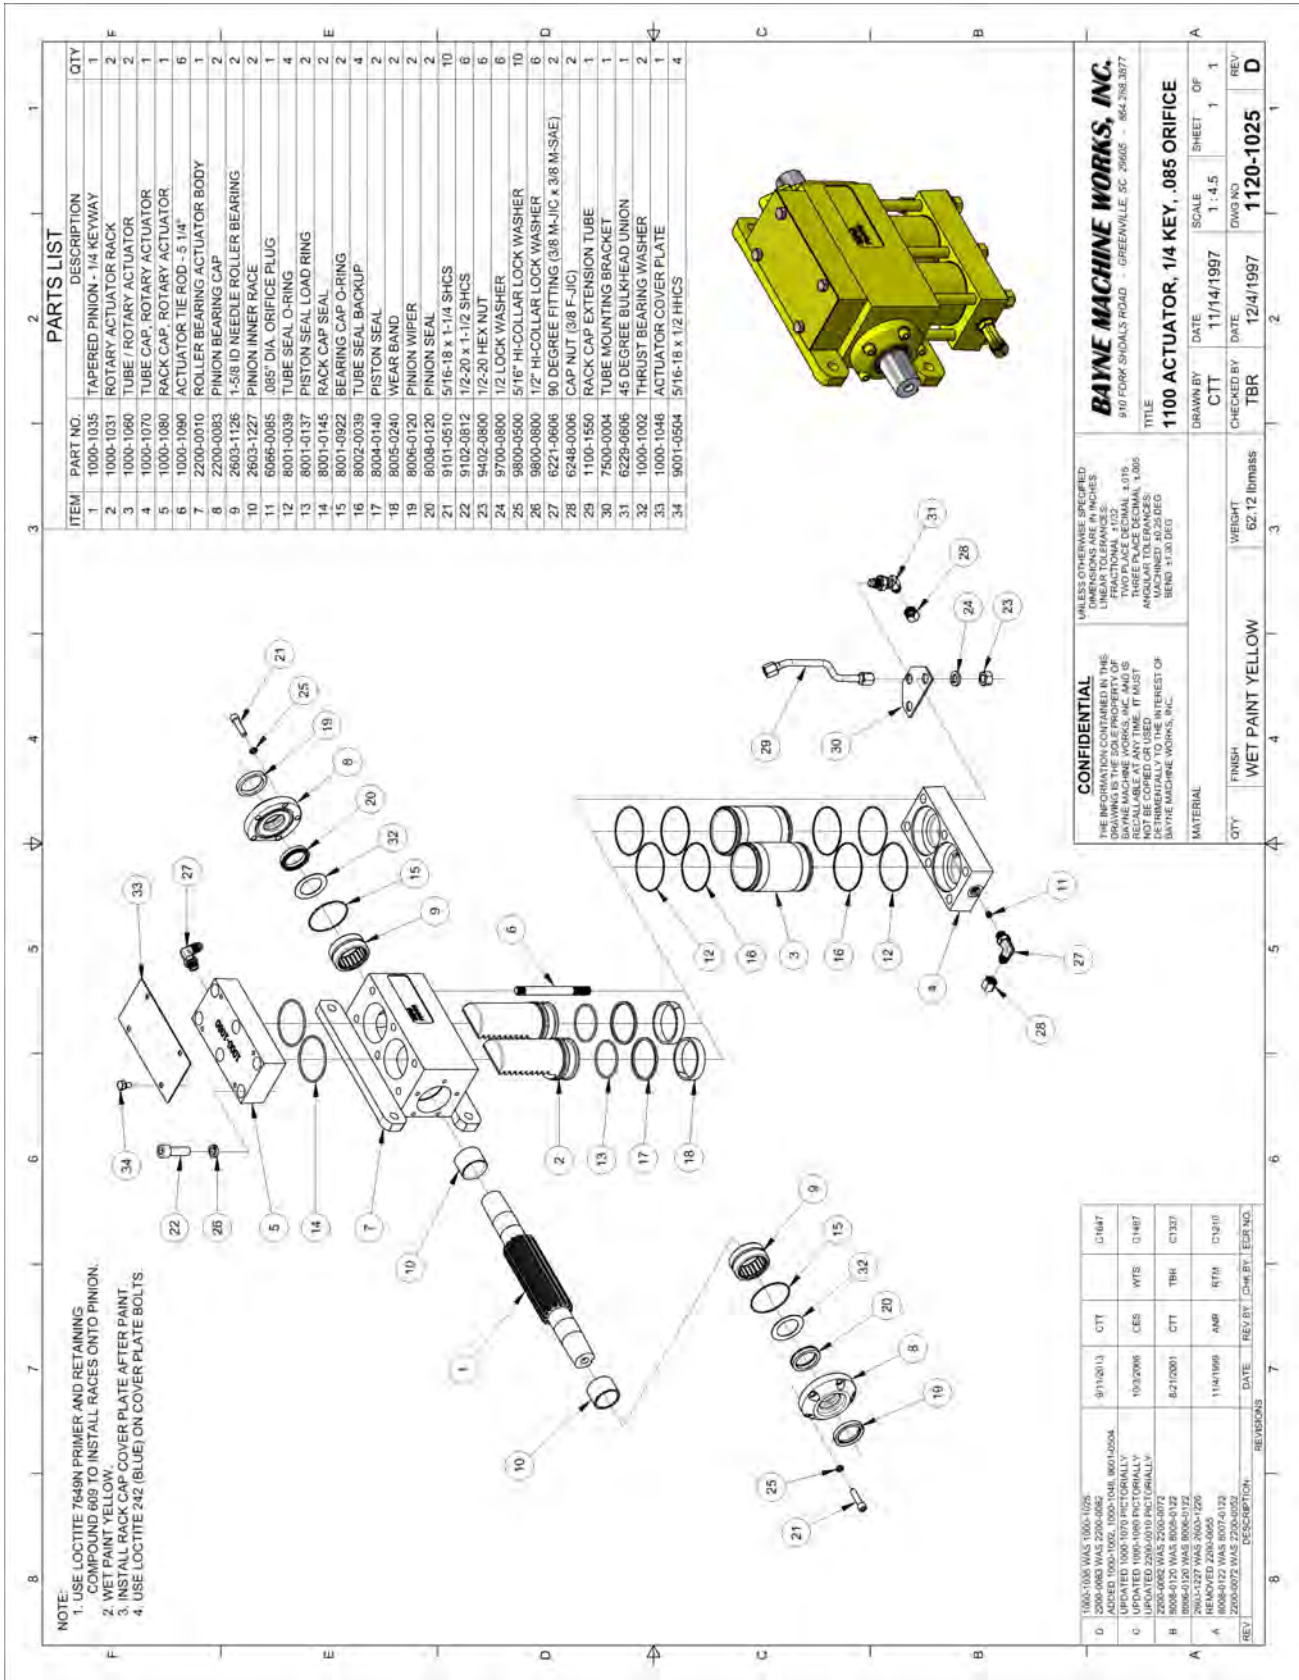

Figure C-13
Before starting the assembly of the Rotary Actuator, refer to the exploded parts drawing and parts list (Figure C-13 found at the end of these instructions) to familiarize yourself with the individual components. Prepare a clean surface, in an area free of blowing dust and contaminants in which to assemble the Rotary Actuator. Be sure that all parts are thoroughly clean and dry before starting assembly.
2. Install the tube seal (12) ( Figure C-2 ) and "square" tube seal backup (16) on each end of the actuator tubes (3) ( Figure C-13 ). Be sure that the "square" tube seal backup ring is toward the inside of the tubes at both ends as shown. Press all rings firmly into the grooves. Repeat this procedure for the other tube.
5. Coat the head portion of the racks (2) ( Figure C-13 ) with STP Oil Treatment. Install the racks, head portion up with the teeth facing the flanges of the actuator body, into the dual set of bores in the body. Simultaneously slide the racks into the bores so that the racks mesh with the pinion in the same position. Rotate the pinion shaft to engage the racks into the pinion.
7. Coat one end of the actuator tubes (3) ( Figure C-13 ) around the seal area with STP Oil Treatment as shown in Figure C-7. Using a rubber mallet, drive the coated end of the tube onto the exposed rack until the tube end seats in the actuator body, making sure that the seals remain in place as the tube enters the counter-bore. Repeat this procedure for the other side.
8. Install the six tie rod studs (6) ( Figure C-13 ) by screwing the short threaded end into the actuator body. Hand tighten only at this time (the torque needed will be applied later in the procedure).
9. Place the tube cap (4) ( Figure C-13 ) on the table. Coat the sides of the two bores in the tube cap with STP Oil Treatment. Install the cap over the tubes and rod studs with the oil port positioned to the left as shown in Figure C-13. Using a rubber mallet, tap the tube cap over the tubes until the tubes seat in the cap, making sure that the seals remain in place.
10. Place the tube mounting bracket (30) ( Figure C-13 ) over the two end rod studs opposite the oil port in the tube cap as shown in Figure C-13.
11. Install the hex nuts (23) ( Figure C-13 ) and lock washers (24) on the tie rod studs. Torque the nuts to 50 ft-lb. in the sequence shown in Figure C-8.
12. Place the rack cap (5) ( Figure C-13 ) bore side up on the table and coat the edge of each bore with STP Oil Treatment. Install the rack cap seals (14) ( Figure C-9 ) in the rack cap.
13. Reposition the actuator on the table mounting flanges down, and the lower tubes facing away from the assembler. Rotate the pinion shaft to allow 1" of the rack to protrude from the top of the actuator body. Install the rack cap with the oil port positioned to the left hand side of the actuator opposite the bottom oil port located in the tube cap as shown in Figure C-13. Attach the rack cap to the actuator body using the socket head bolts (22) ( Figure C-13 ) and lock washers (26). Torque the bolts to 90 ft-lb. in the sequence shown in Figure C-10.
15. Re-center the actuator pinion in the actuator body by tapping on one end of the shaft with a rubber mallet. Install the roller bearing (9) ( Figure C-13 ), over the pinion shaft and inner race, and into the actuator body. Repeat this procedure for the other bearing.
18. Wrap masking tape or electrical tape around the pinion to cover the edges at the keyway. Slide the bearing cap assembly over the pinion shaft with the bearing cap seal facing toward the actuator body and the flat surface of the flange shown in Figure C-12 facing toward the actuator mounting flanges. Press against the bearing cap until the shoulder seats against the actuator body, making sure that the seals remain in place. Install the bearing cap bolts (21) ( Figure C-13 ) and lock washers (25). Hand tighten only at this time. Repeat this procedure for other bearing cap.
20. Install the 90° fitting (27) ( Figure C-13 ) into the oil port on the side of the rack cap (5). Hand tighten only at this time.
21. Install the 45° bulk-head fitting (31) ( Figure C-13 ) up through the hole in the tube mounting bracket (30) bolted to the tube cap as shown in Figure C-13. The 45° end must be pointing down away from the rack cap (5) and back toward the mounting flanges on the actuator body. Hand tighten only at this time.
22. Install the rack cap extension tube assembly (29) ( Figure C-13 ) between the 90° fitting in the rack cap and the 45° fitting in the tube mounting bracket as shown in Figure C-13. Tighten all connections.
23. Install the orifice plug (11) ( Figure C-13 ) into the oil port on the side of the tube cap (4), and install the 90° fitting (27) into the oil port over the orifice plug as shown in Figure C-13. Turn the fitting so that it points down away from the rack cap (5) and back toward the mounting flanges on the actuator body and tighten.
24. Install the cap nuts (28) ( Figure C-13 ) onto the open fittings to prevent contamination of the unit until the hoses are installed.
25. Install the actuator cover plate (33) ( Figure C-13 ) onto the rack cap (5) using the cover plate bolts (34). Be sure to use LOCTITE THREADLOCKER 242 on the cover plate bolts.